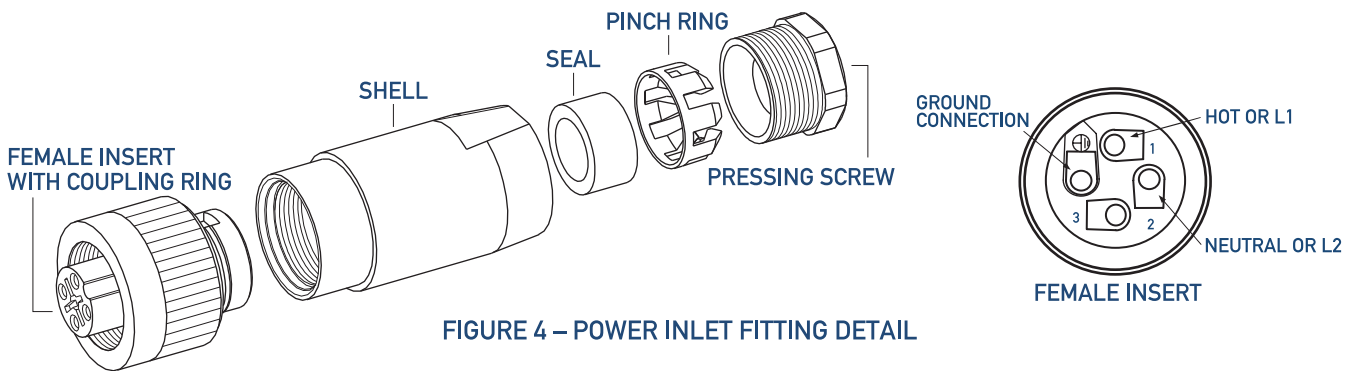

FIGURE 4 – POWER INLET FITTING DETAIL
- 4) A field-installed junction box should be installed within 4 feet of the unit. 3/8 inch flexible metal conduit or BX should be installed between the junction box and the power fitting shown in figure 4.
- 5) See figure 4. Step by step instructions for inserting power wiring into power inlet fitting: